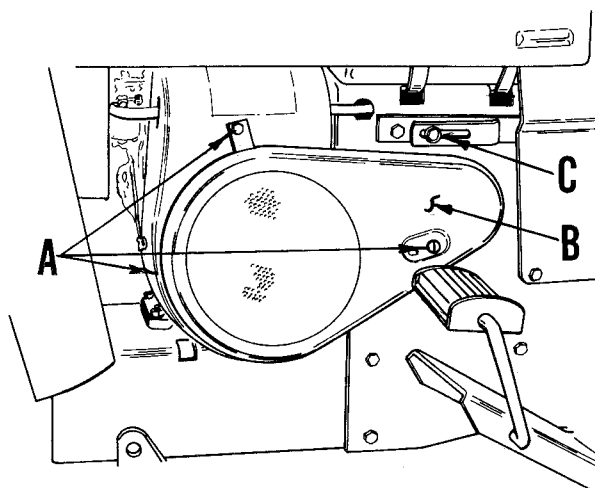

FIG. 22
- a. Remove the three screws (A, Fig. 22). This will allow removal of belt guard assembly (B, Fig. 22).
- b. Loosen nut (C, Fig. 22), and push motor-generator forward. This will take tension from V-belt. Remove belt.